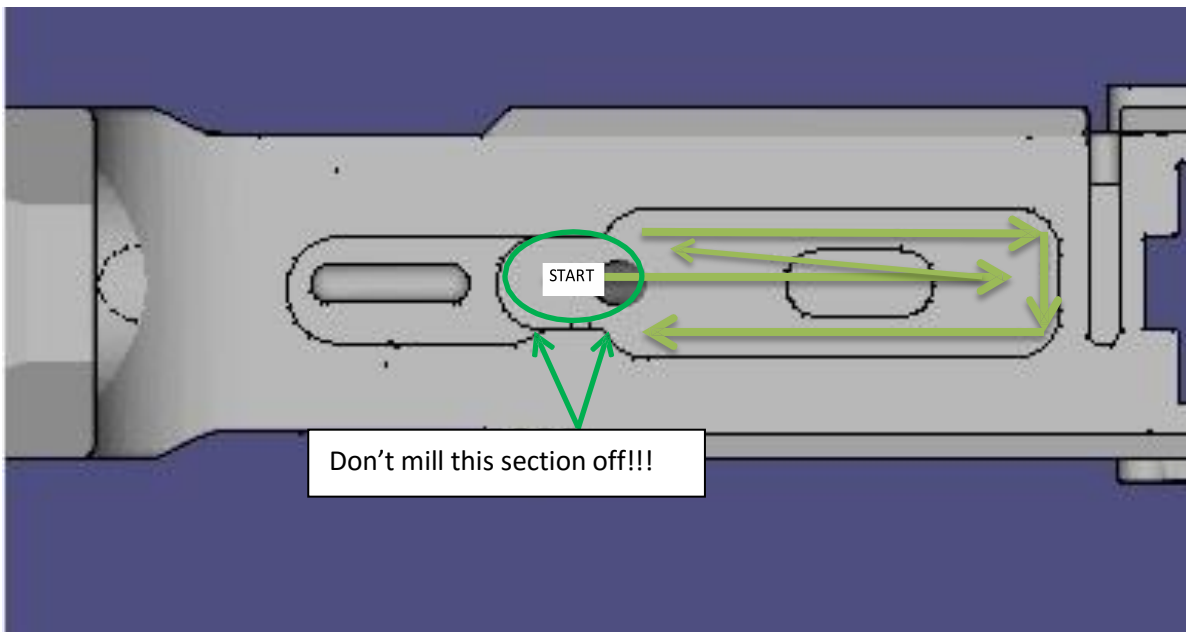

Figure 3
10. Once this hole is done you can start going straight across into the wider fire control pocket area to clear out material. It's important to start clearing out the hole so you can see what you are doing. A strong light and a shop vac are useful. Figure 3 shows you the technique and pattern you should follow while plunging and milling.
11. Note: Now that we're going to start drilling and cleaning out the main fire control pocket using a milling procedure, it's important to note that the drill bit in a drill press is spinning in a clock-wise direction towards you, from right to left. **ASSUMING YOU ARE USING A CROSS SLIDE VISE** therefore, when moving the jig underneath in the slide vise, follow the path pictured in Figure 3 to prevent the bit from jumping and chattering. You will work against the grain in one sense, rather than allowing the bit to grab and run.
14. Each time you go through this process, FOLLOW THE PATH IN FIGURE 3.